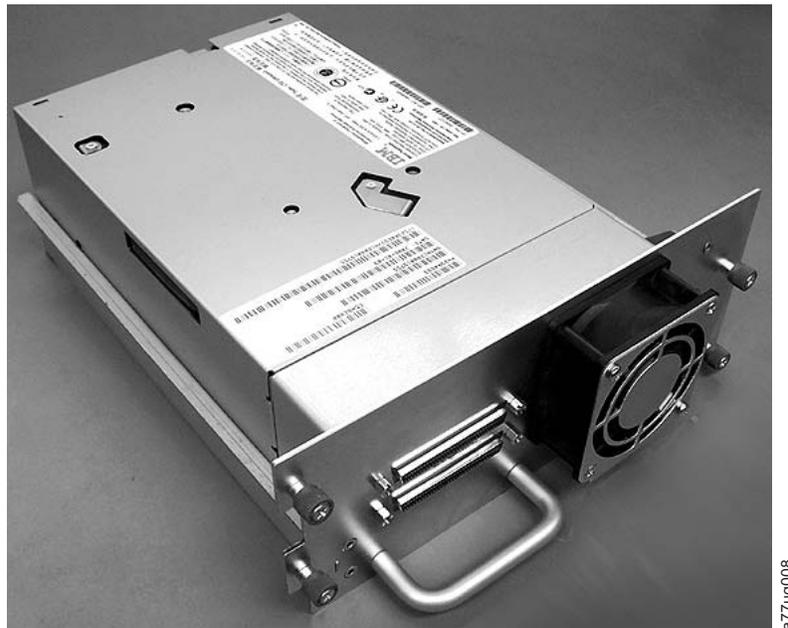
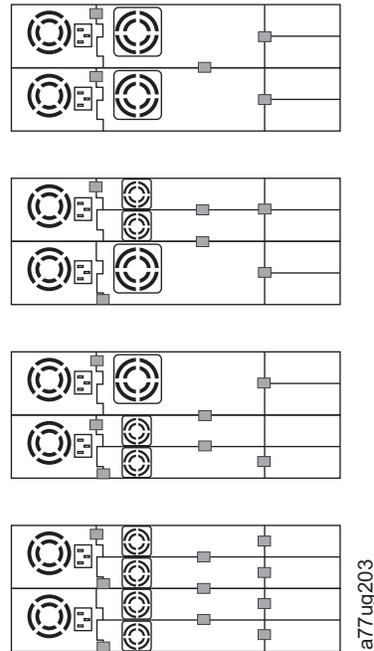

Figure 10-4. Library drive sled without ElectroStatic Discharge (ESD) springs (SCSI sled shown)
Figure 10-9. Diagrams for applying conductive tape for ESD protection to the back of a drive sled installed in a 2U or 4U library
- Drive sled without ElectroStatic Discharge (ESD) springs (see Figure 10-4) ship group:
5. If present, remove the conductive tape from the drive sled (refer to Figure 10-9 on page 10-8).
6. If you are installing a drive sled without ESD springs (see Figure 10-4 on page 10-3), apply conductive tape to the sled as shown in Figure 10-9 on page 10-8.
4. If you are installing a drive sled without ESD springs (see Figure 10-4 on page 10-3), apply conductive tape to the sled as shown in Figure 10-9 on page 10-8.